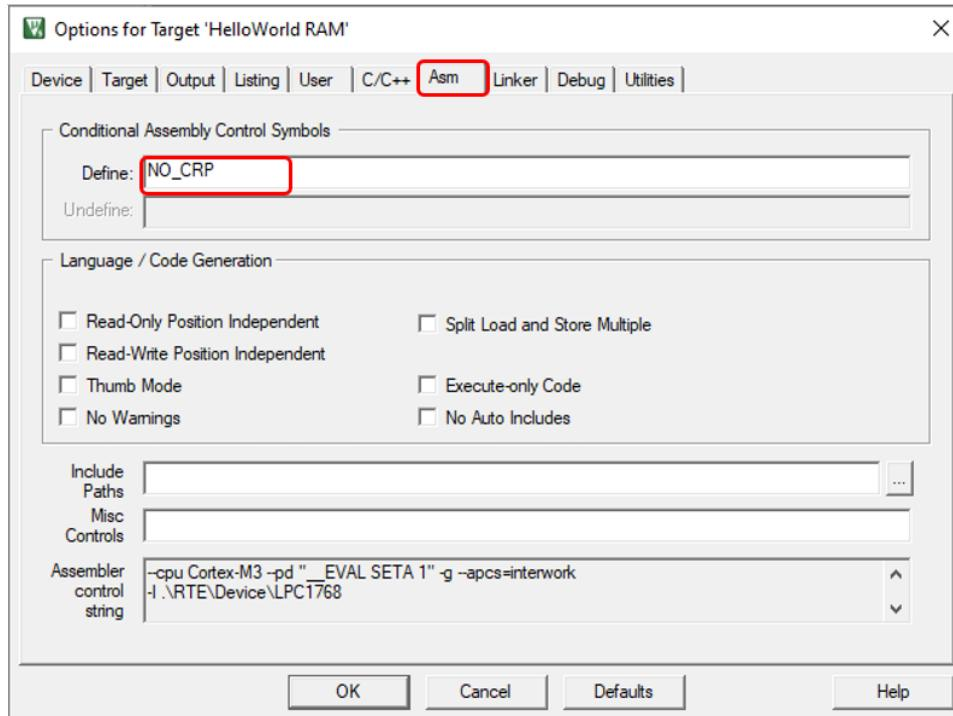

Figure 7.29: Keil IDE: RAM Target Asm Configuration.
4. Select the Asm tab and input NO\_CRP in the Conditional Assembly Control Symbols section as shown in Figure 7.29.